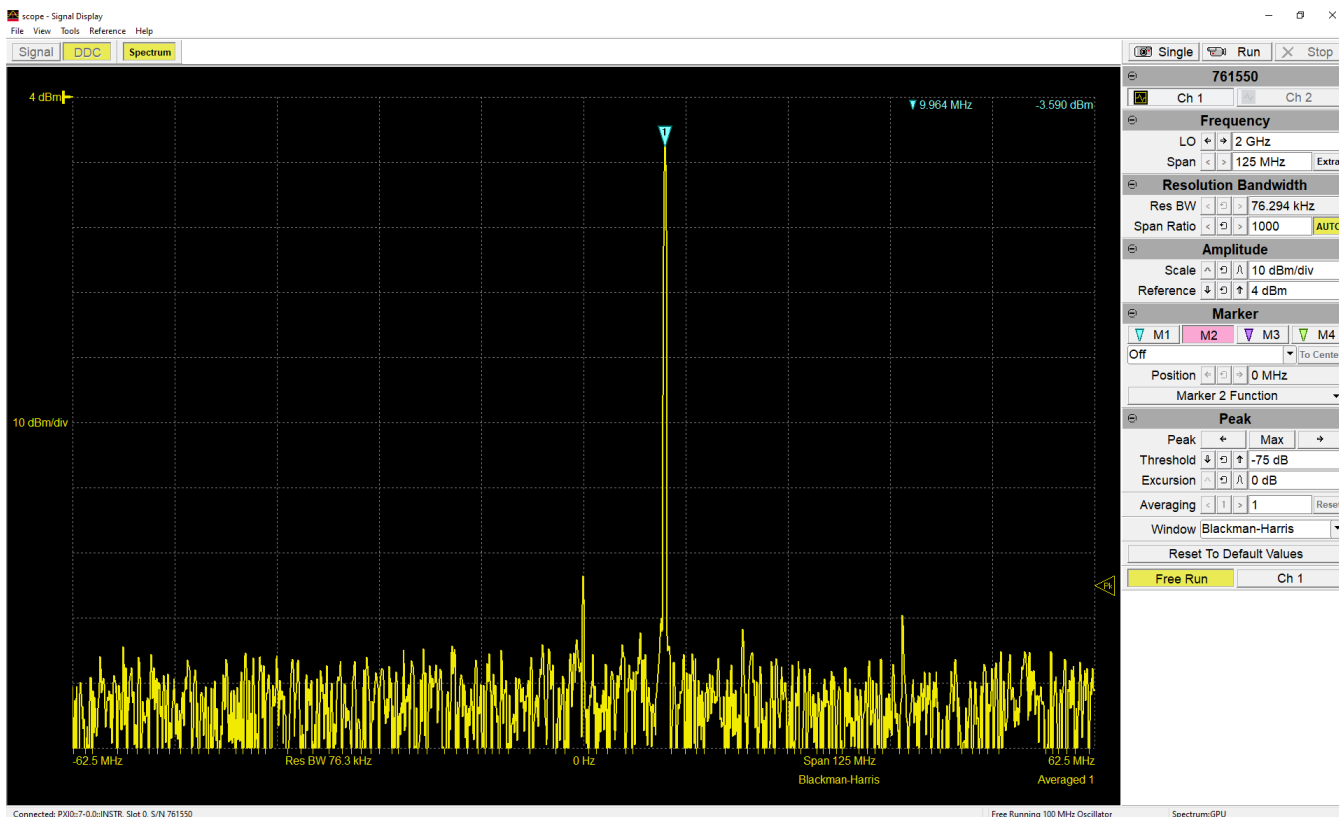

Figure 24. DDC spectrum analyzer (frequency domain) display with software control panel
- DDC Spectrum Display mode - to observe down converted signal in frequency domain (See Figure 24)